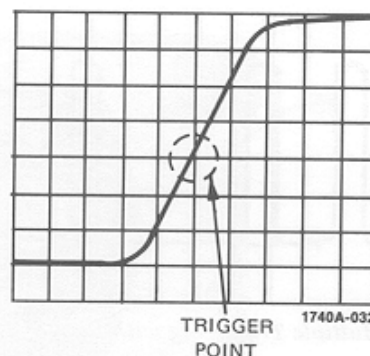

Figure 29. Trigger Point Location
2. Select TRIG VIEW. The trigger signal will be displayed near center screen. The point where the trigger signal crosses the center horizontal graticule is the trigger point (see figure 29).